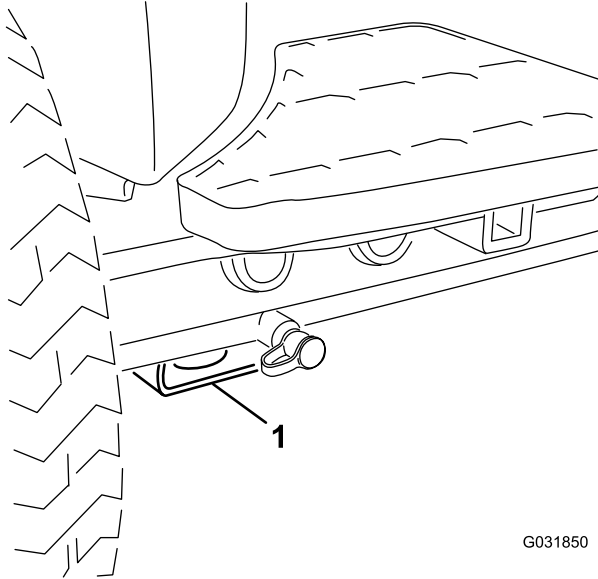

Figure 45
- **Front of the machine**—rectangular pad, under the axle tube, inside each front tire (Figure 45).